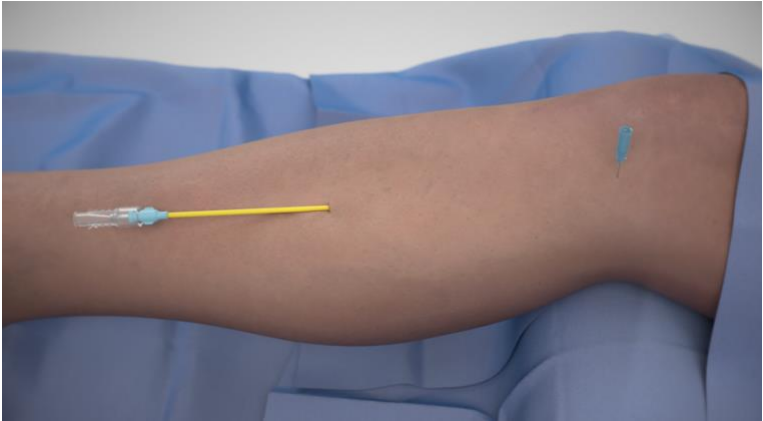

Figure 4
6. Using fluoroscopic guidance, advance the introducer needle assembly through the incision towards the marker needle using a low entry angle. (Figure 4)